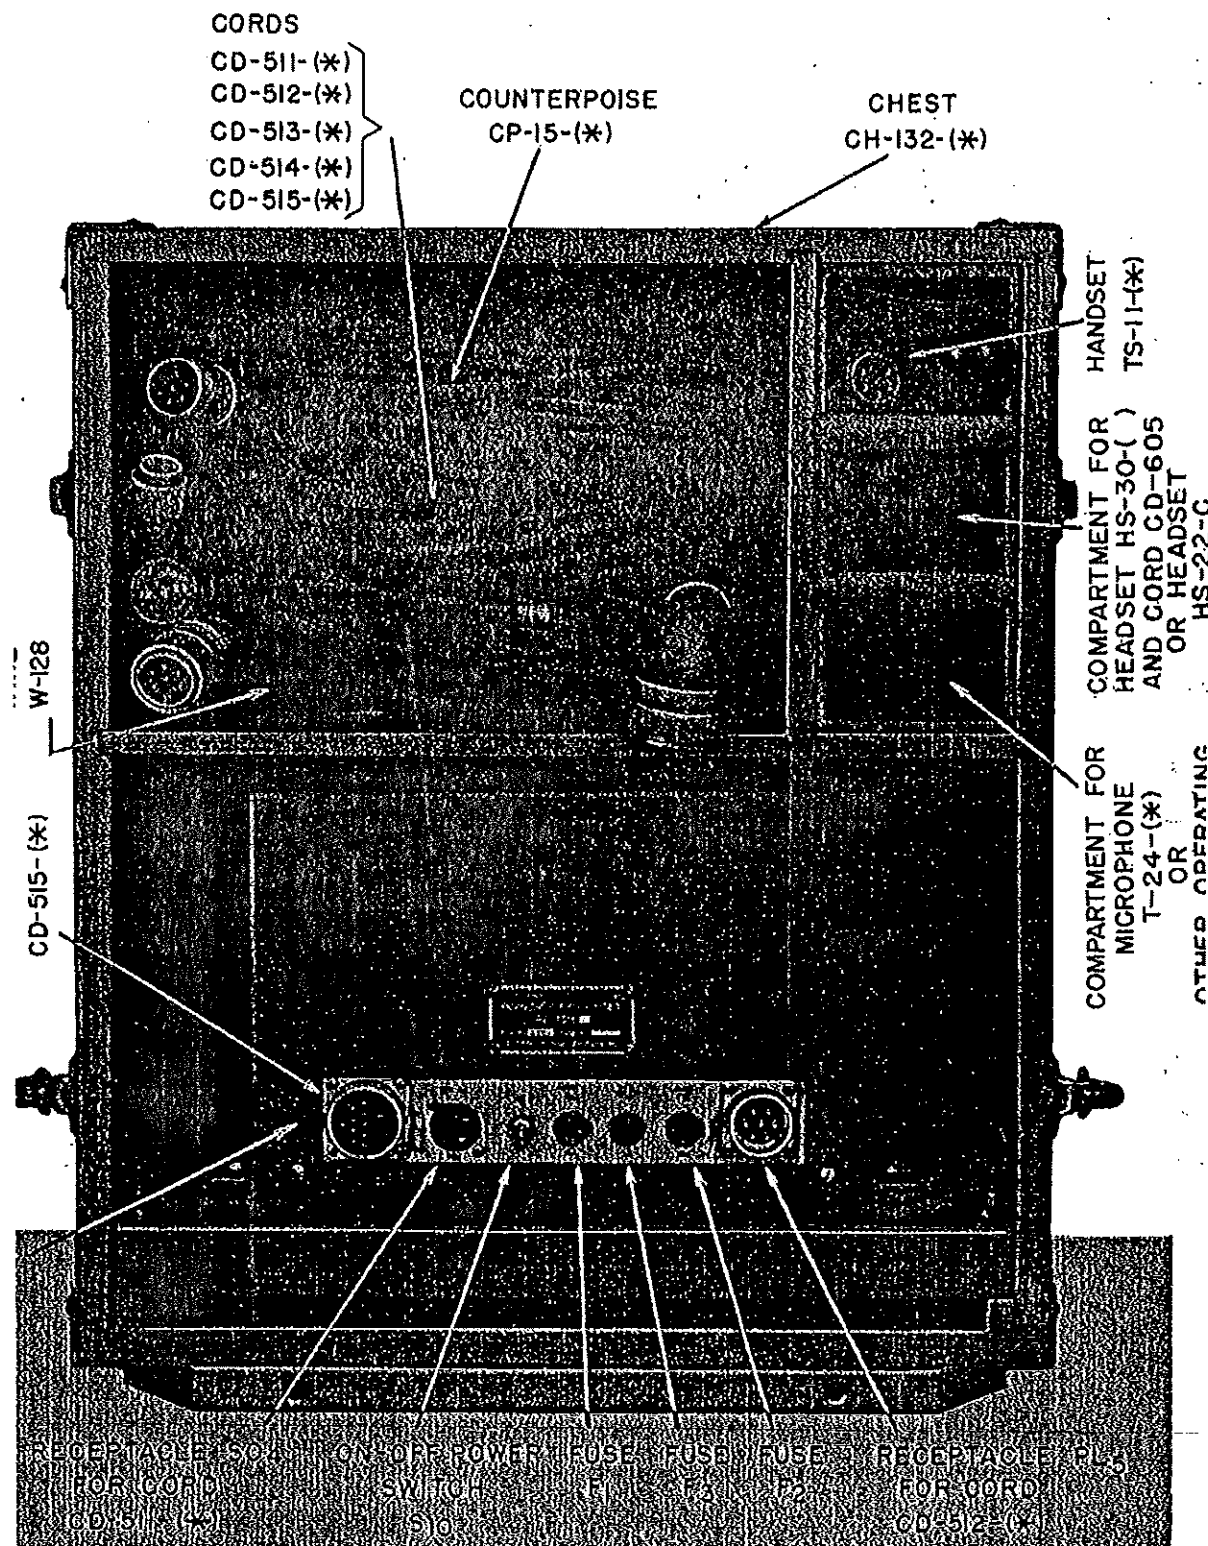

Fig. 4—Power Supply Unit PE-110(*) in Chest CH-132(*)
- b. Power Supply Unit PE-110(*) in Chest CH-132(*) (See Figure 4).—
- (1) This power supply unit includes circuits for converting 115 volts a-c power to suitable filament and plate power for the receiver and transmitter. Also included are circuits for converting 12 volt d-c power to filament and plate power for the receiver only, (for stand-by recep-